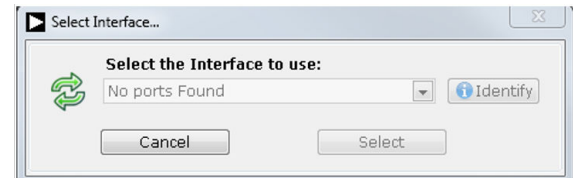

Figure 19. Connectivity Error Alert
- If the AD7124-4/AD7124-8 evaluation system is not connected to the USB port via the EVAL-SDP-CB1Z when the software is launched, a connectivity error appears, as shown in Figure 19. Connect the evaluation board to the USB port of the PC, wait a few seconds, click **Rescan**, and then follow the on-screen instructions.